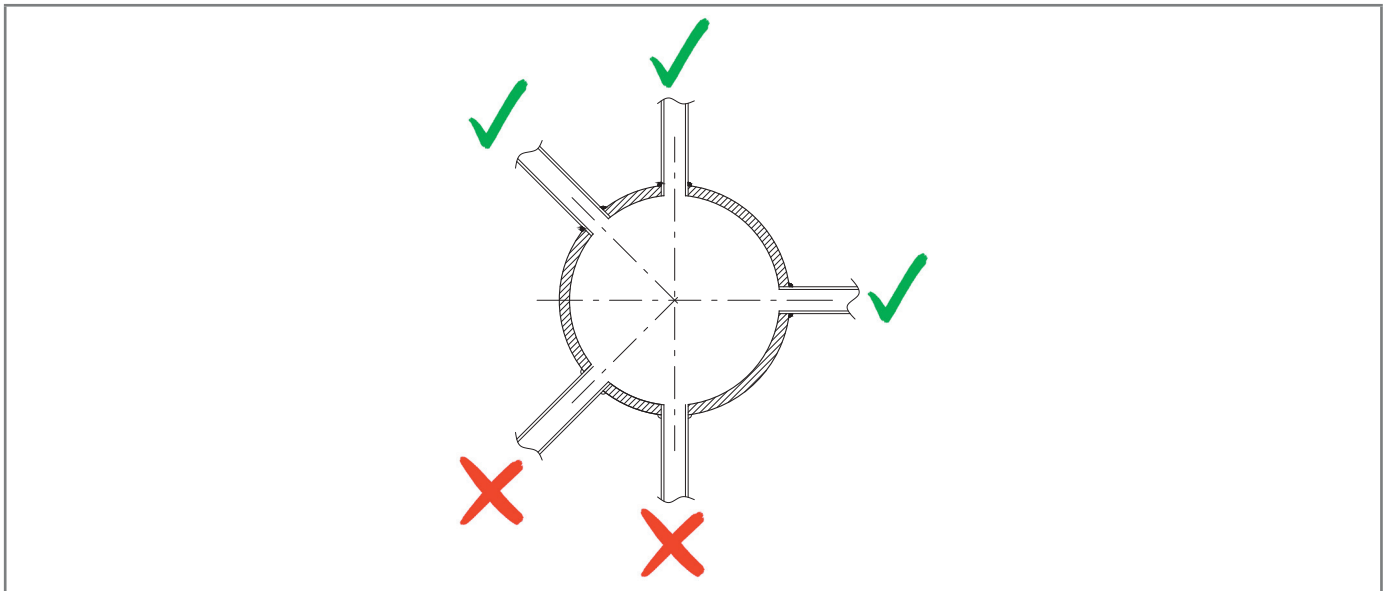

Fig. 6.30. *Welded pipe connections*
- the pneumatic connection fittings are always welded to the top or horizontal axis of the pipe itself (refer to Fig. 6.30);